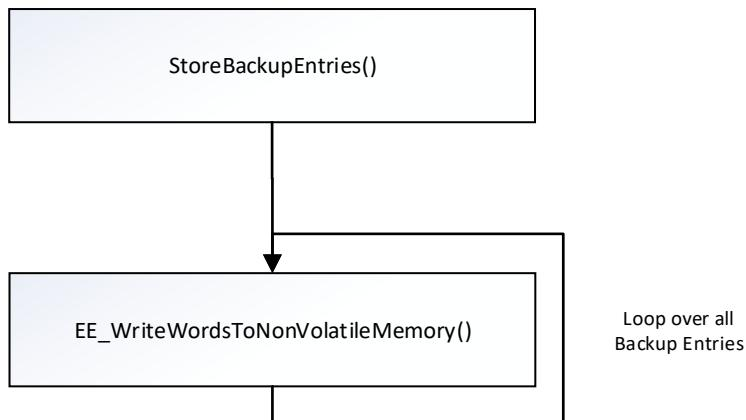

Figure 20: Store backup parameters
- 0x1010.1 Store backup value (if 0x65766173 is written the backup parameters are stored, see Figure 20).